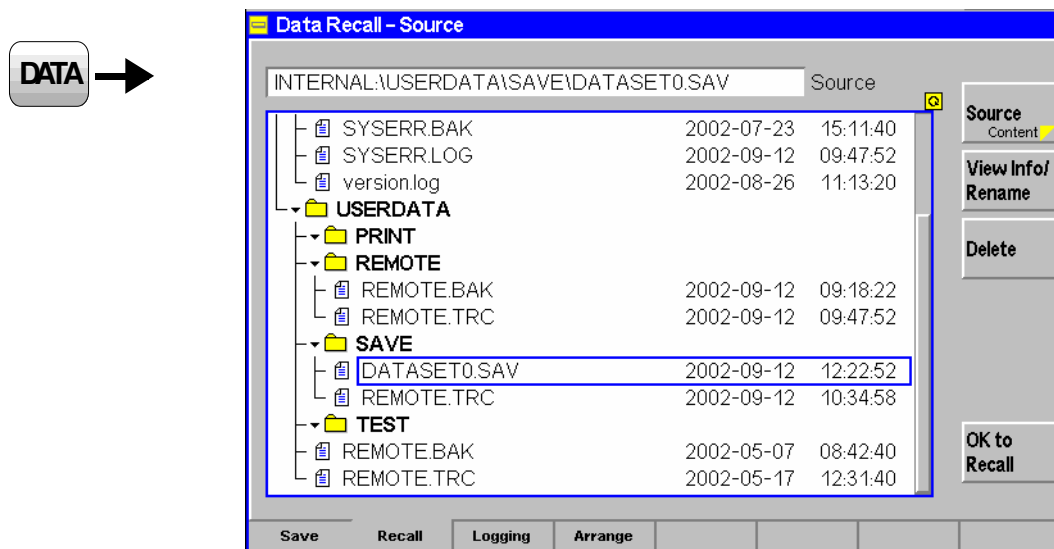

Fig. 4-15 Data – Recall menu
*Source/Content* toggles between the directory view (see Fig. 4-15 *above*) and the overview of function groups and test modes contained in a configuration file (configuration tree); see *Dir. View/Content* softkey on p. 4.26.